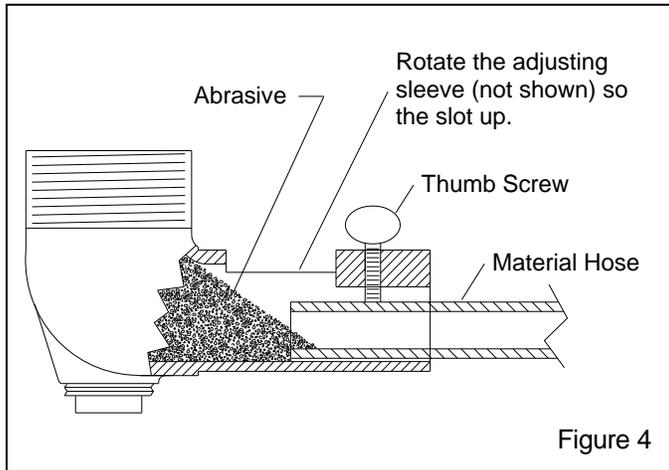

Figure 4
4.3 Insert the material hose midway into the feed elbow at the bottom of the hopper, as noted in Figure 4. The slot in the adjusting sleeve should be facing up so that the hose may be observed.
5.2 Abrasive/Air Mixture, Figure 4
5.2.1 The air-to-abrasive ratio (abrasive/air mixture) is controlled by how far the material hose is inserted into the abrasive within the feed elbow. Begin with the material hose inserted into the abrasive leaving the top half of the hose open to air, as shown in Figure 4. To maintain smooth abrasive flow, a generous volume of air with abrasive must be drawn into the hose.